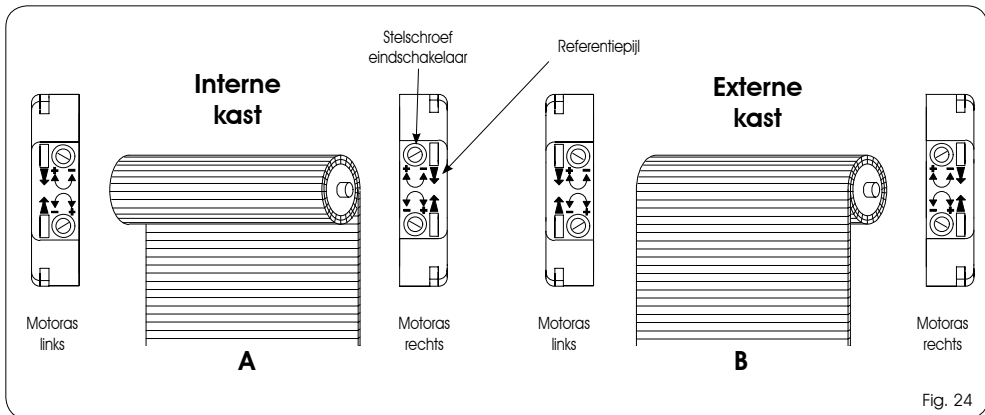

Fig. 24
10.2 CONFIGURATIE MET INTERNE KAST (Fig.24 ref.A)
10.3 CONFIGURATIE MET EXTERNE KAST (Fig.24 ref.B)